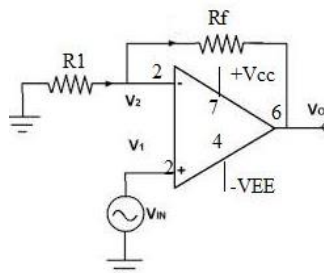

Fig. 2.3: Non-Inverting Amplifier
1. Connect the circuit as per the circuit diagram shown in Fig.2.3